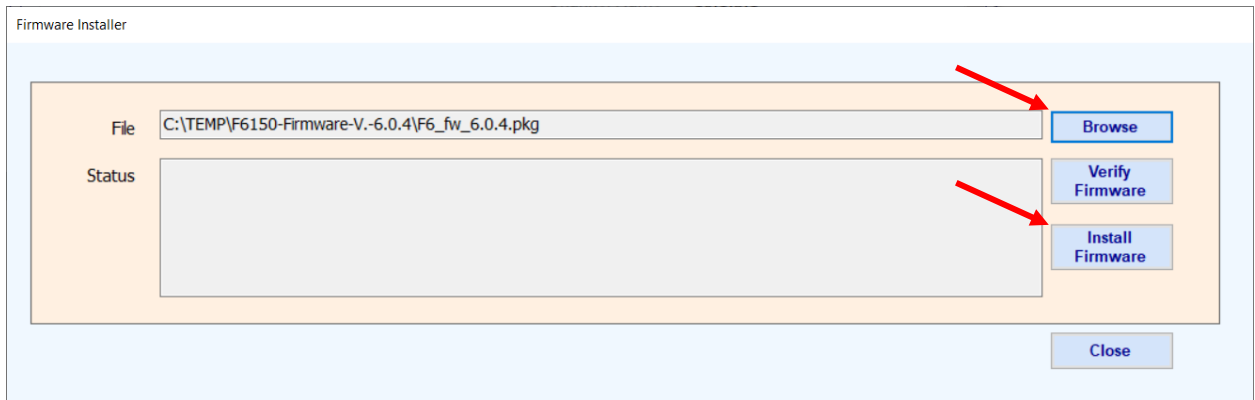

Figure 10. Flash Loader example for F6 CPU3 (Protection Suite 5.2.5 and later)
26) Observe the Flash Loader, shown in Figure 10